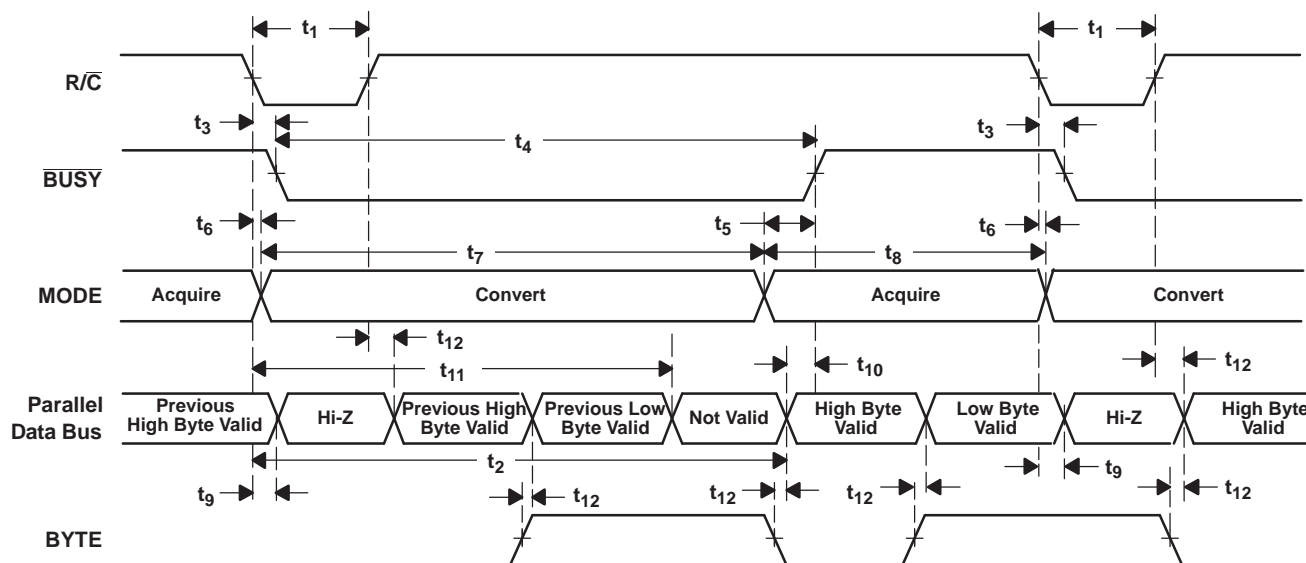
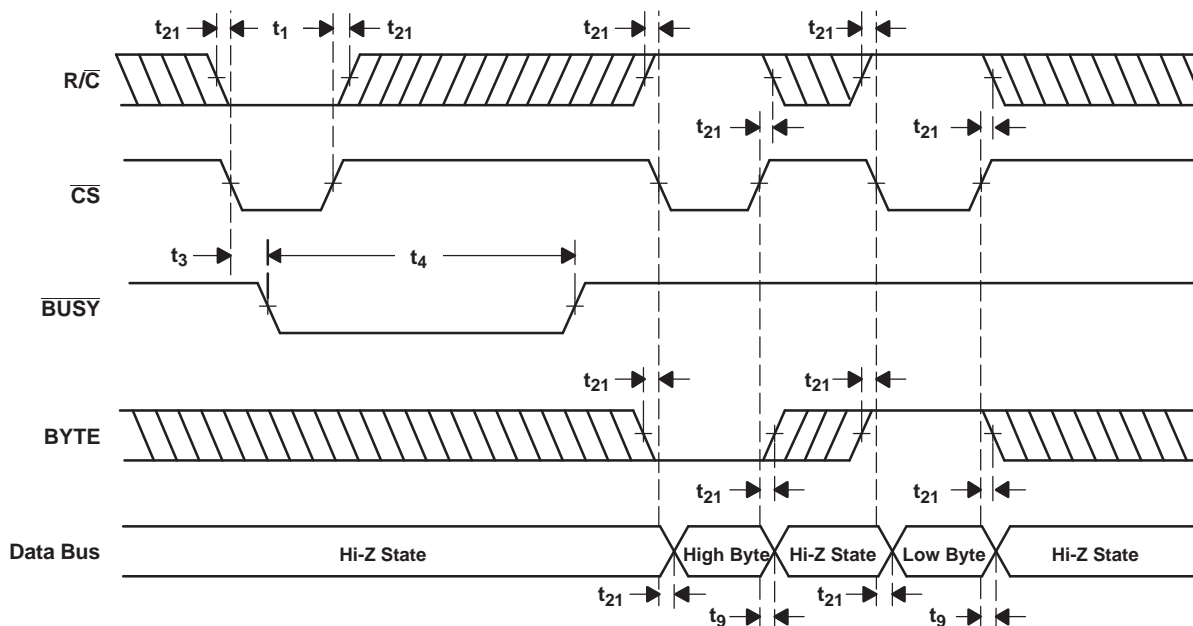

Figure 33. Conversion Timing With Parallel Output ($\overline{\text{CS}}$ and DATACLK Tied Low, EXT/INT Tied High)
Figure 34. $\overline{\text{CS}}$ to Control Conversion and Read Timing With Parallel Outputs
The ADS8506 begins tracking the input signal at the end of the conversion. Allowing 25 μs between convert commands assures accurate acquisition of a new signal. Refer to Table 2 and Table 3 for a summary of $\overline{\text{CS}}$, $\text{R}/\overline{\text{C}}$, and $\overline{\text{BUSY}}$ states, and Figure 33, Figure 34, Figure 35, Figure 36, Figure 37, Figure 38, and Figure 39 for timing diagrams.
(1) See Figure 33 and Figure 34 for constraints on data valid from conversion $N-1$.
After conversion N is completed and the output registers have been updated, $\overline{\text{BUSY}}$ (pin 24) goes high. Valid data from conversion N is available on D7-D0 (pin 9-13 and 15-17). $\overline{\text{BUSY}}$ going high can be used to latch the data. Refer to Table 5 and Figure 33 and Figure 34 for timing specifications.
After conversion N has been initiated, valid data from conversion $N-1$ can be read and is valid up to 12 μs after the start of conversion N . Do not attempt to read data beyond 12 μs after the start of conversion N until $\overline{\text{BUSY}}$ (pin 24) goes high; this may result in reading invalid data. Refer to Table 5 and Figure 33 and Figure 34 for timing constraints.